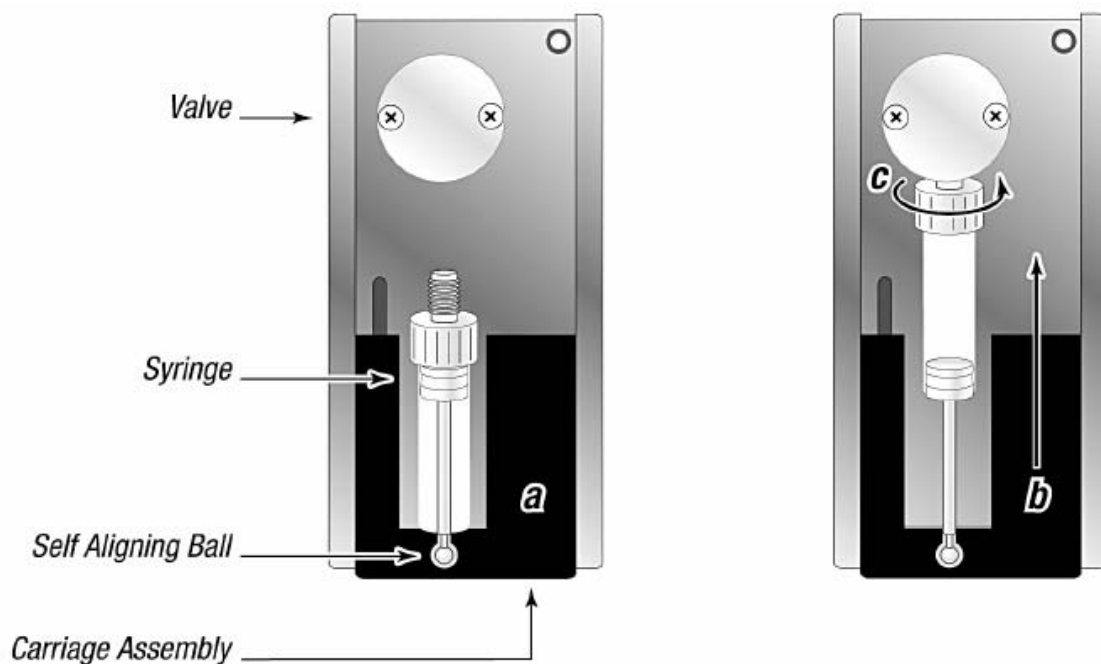

Figure 8.14. Syringe Installation
2. To install the syringe, do the following (as shown in Figure 8.14. Syringe Installation):